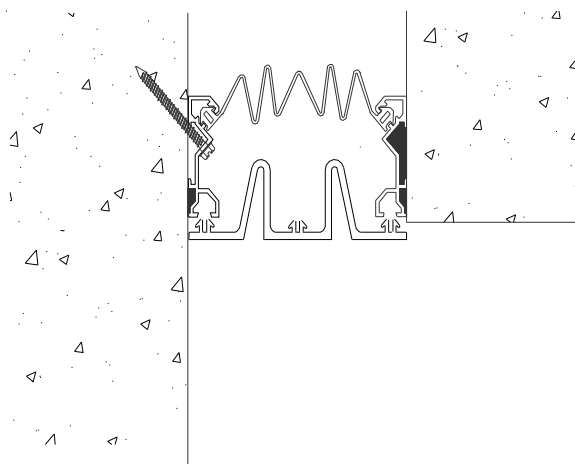
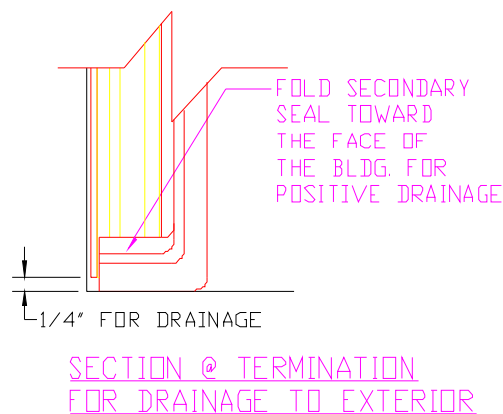

Figure 11
Figure 12
STEP 23. Beginning 1/4" from the bottom of the joint, insert the arrows of the trimmed section of face seal into the corresponding base member face seal retainer track. Use a wall paper roller (by others, 1/2" width) to roll the arrows into the tracks continuously along the length of the face seal (see Figure 11 and Figure 12). Lubricating the face seal's arrows with soapy water or liquid soap can make installation of the face seal easier. Do not use oils or oil based lubricants on the face seal arrows.